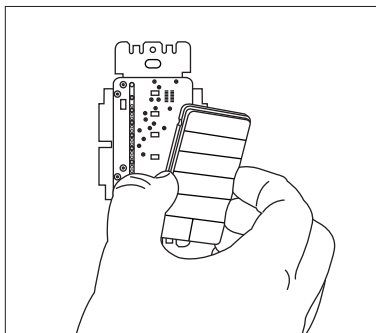

fig. 11
4. Apply pressure to exposed left edge of button chassis until it pops loose, and then gently remove (see figure 11).